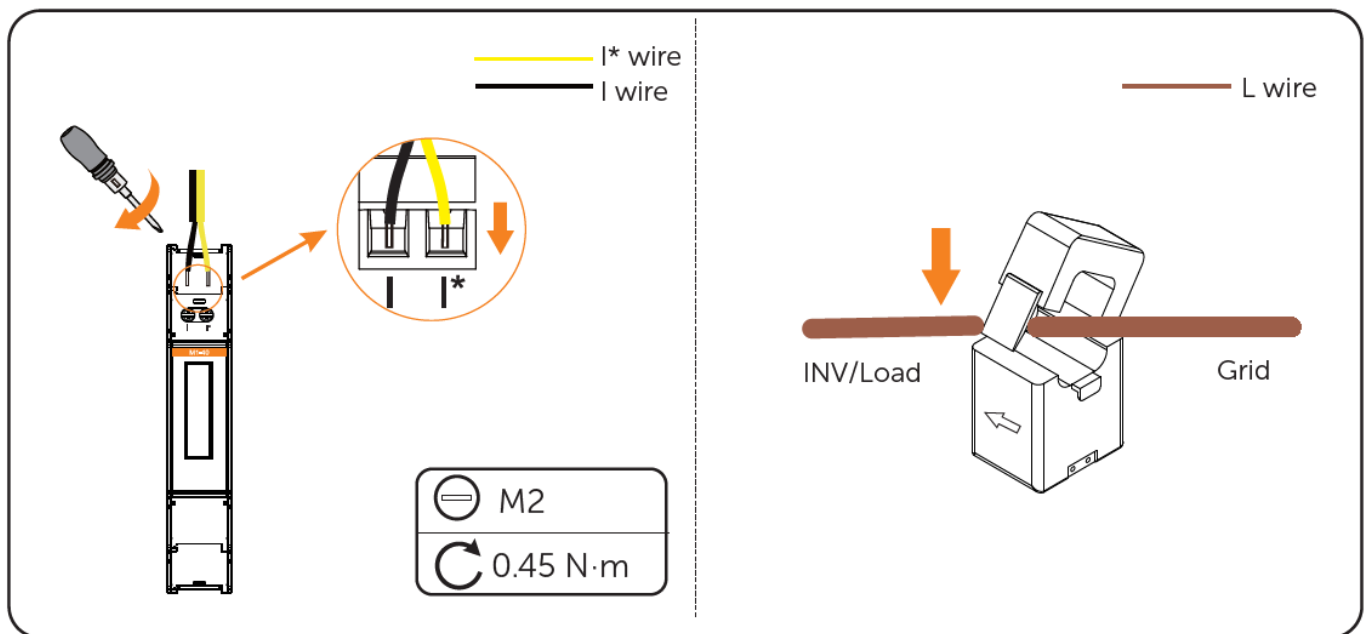

Figure 6-2 Connecting CT cables
2. **CT Connection:** Connect the I* and I wires as per the CT cable requirements. See Figure 6-2.